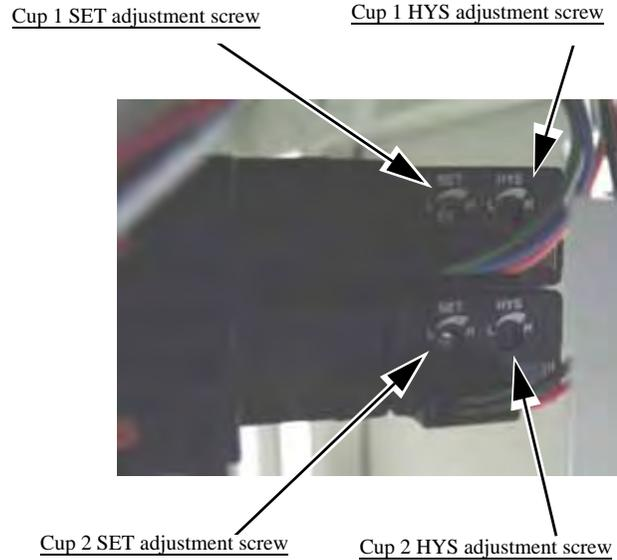

Figure 5-33—Cup 1 and Cup 2 vacuum generator adjustments
**NOTE:** Refer to Figure 5-33 for Step 3 through Step 5.